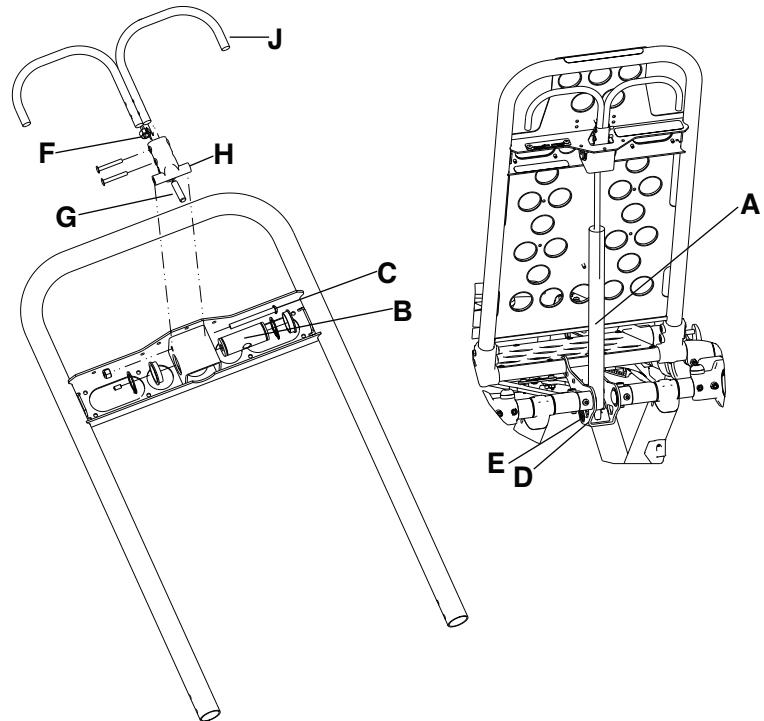

Figure 5 – Backrest
2. Verify that the cylinder (A) is threaded into the yoke (B) so that no threads are visible on the cylinder shaft (Figure 5).
3. If threads are visible, complete the steps a - e below (Figure 5).
- a. Using a 3/32" hex wrench, remove the set screw (C) from the center of the yoke.
- c. Thread the cylinder shaft (A) into the yoke (B) until no threads are visible on the cylinder shaft.
- e. Using Loctite®, replace the set screw (C).
4. Using a 1/2" combination wrench, loosen the hex nut (F) on the backrest pivot (H) while you hold the set screw fixed in the pivot (Figure 5).
5. Using a 5/32" hex wrench, turn the set screw (G) until there is no play between the backrest release handle (J) and the pneumatic cylinder release button (Figure 5).
7. Lower the backrest to a 5-10 degree angle and release the handle. Apply approximately 50 lb of force to the end of the backrest. If the backrest drifts down, turn the set screw (G) counterclockwise (Figure 5). Repeat until the backrest does not drift down.
8. Using the 1/2" combination wrench, tighten the hex nut (F) while you hold the set screw fixed in the pivot.